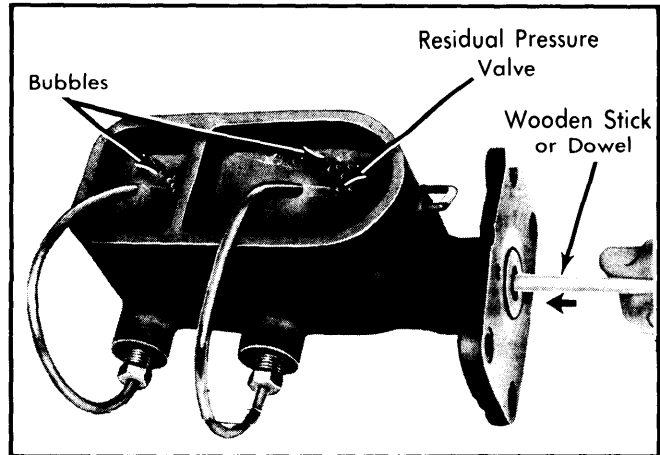

Fig. 1 Bleeding Master Cylinder with Bleeding Tubes Installed (Chrysler Corp. Master Cylinder Shown)
2) Place master cylinder level in a vise. Attach bleeding tubes to cylinder. Fill reservoirs with fluid so that ends of tubes are covered (see Fig. 1). Tubes attached to disc brake outlets must have residual pressure valves installed over ends. This will keep tubes from siphoning.